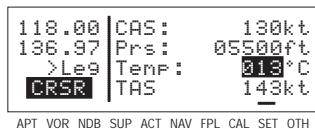

Figure 4-71
4. Move the cursor to the first **Temp:** position, and then enter the outside air temperature (degrees C) by using the right inner and outer knobs (figure 4-71). The first digit of the temperature is either "0" if the temperature is above zero or "-" if the temperature is below zero. For maximum accuracy, the total air temperature should be entered. This is the temperature of air including the effect of heating due to the aircraft's movement through the air. The temperature read on a standard outside air temperature gauge found on most piston aircraft is "total air temperature". Since the difference between static air temperature and the observed air temperature (or "total air temperature") is usually negligible, any temperature entered on the CAL 4 page is transferred to this page. The true airspeed (TAS) is now displayed.